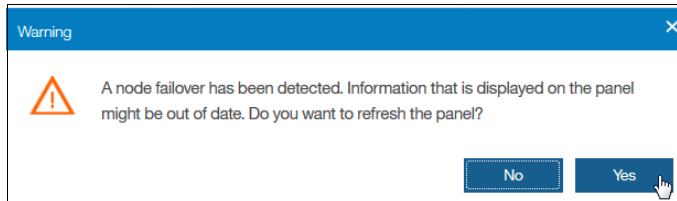

Figure 12-45 Configuration node failover warning
12. During the update process, a node fails over and you can temporarily lose connection to the GUI. After this situation occurs, a warning is displayed, as shown in Figure 12-45. Select **Yes**.